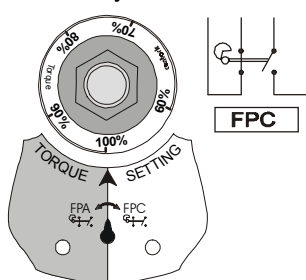

Fig. 8.6.1
- When torque on valve shaft exceeds the value set, e.g. running to close, shaft T turns to the right (Pointing to FPC), at the same time central SHAFT releases (See figures 8.6.1 and 8.6.2). FPC microswitch is tripped.